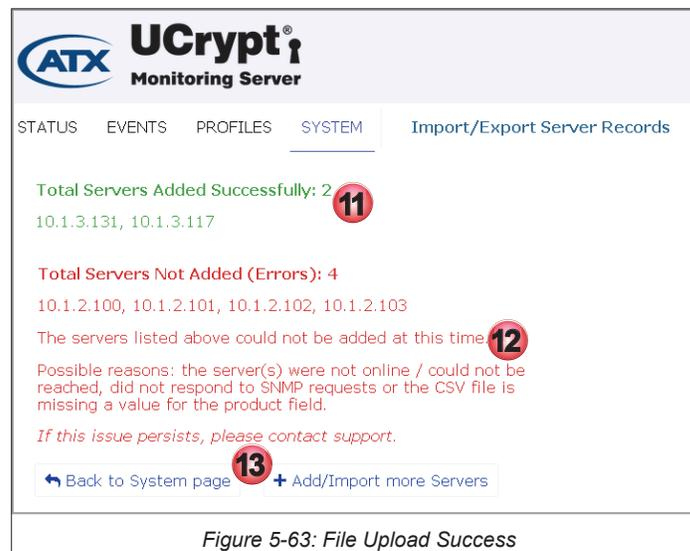

Figure 5-63: File Upload Success
11. A confirmation page displays results, Figure 5-63. Added servers will be listed in green.